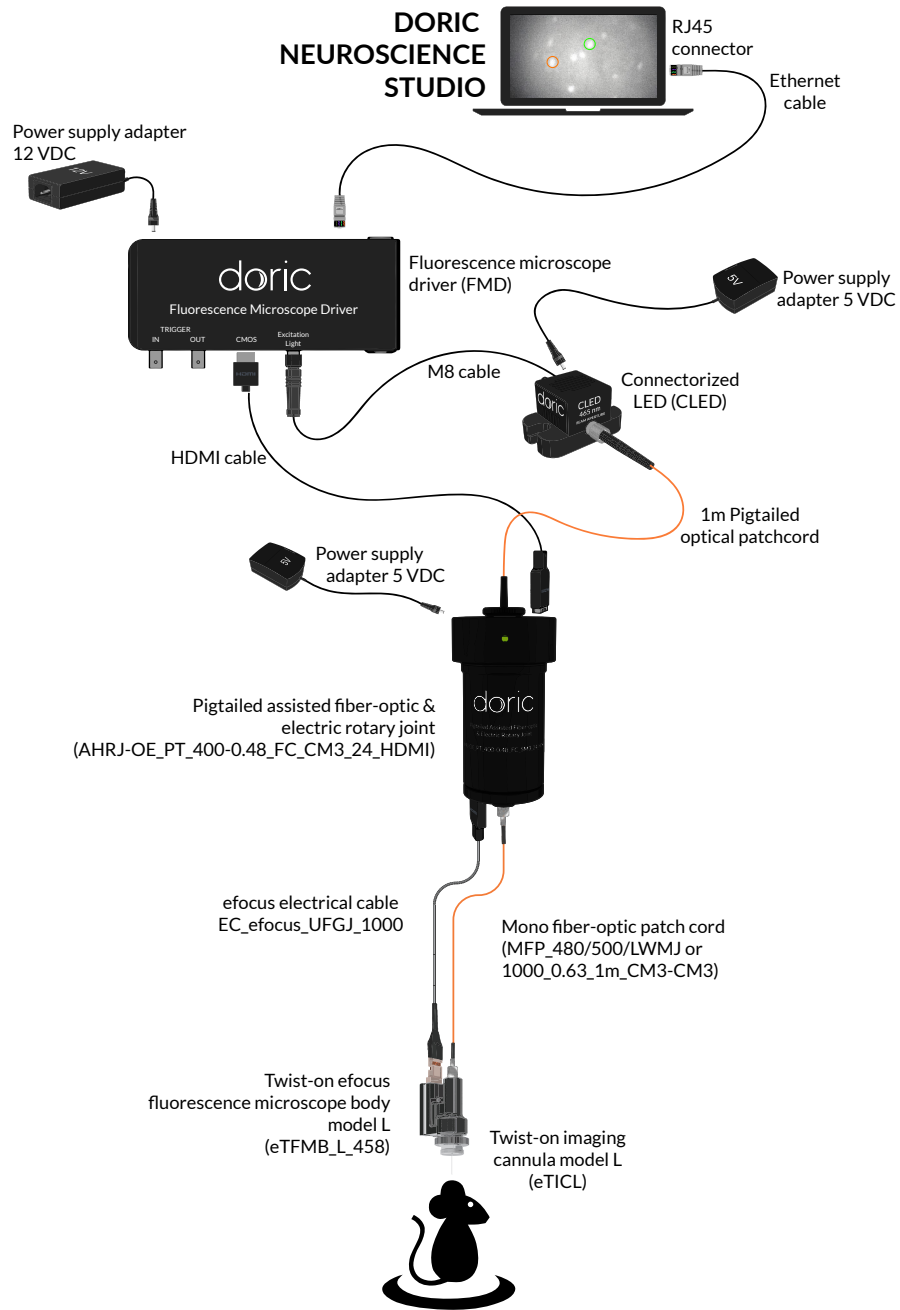

Figure 3.1: *Freely-moving System Configuration for Twist-on efocus Deep-brain Imaging.*
1. Prepare the microscope for a freely-moving configuration session as shown in Fig. 3.1 (for more informations, please refer to the Twist-on efocus Fluorescence Microscope System User Manual).